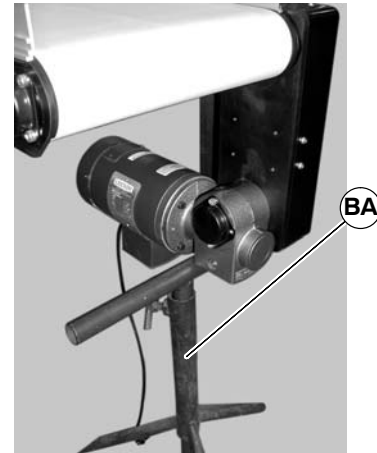

Figure 39
- Use a temporary support (BA of Figure 39) to support Gearmotor.